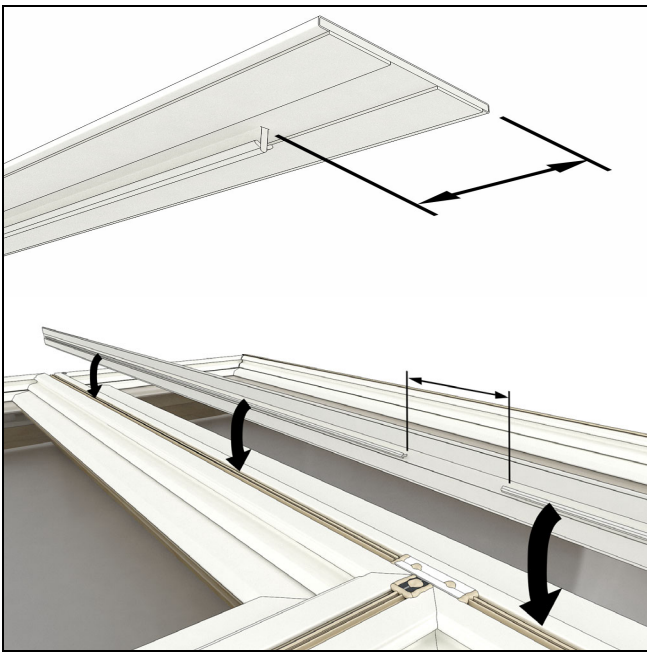

Figure 63
48. Notch exterior mull cover to fit over end plugs by 1" +/- 1/4" from end. Notch the cover to fit over center plugs within 1/4" as seen in Figure 63.